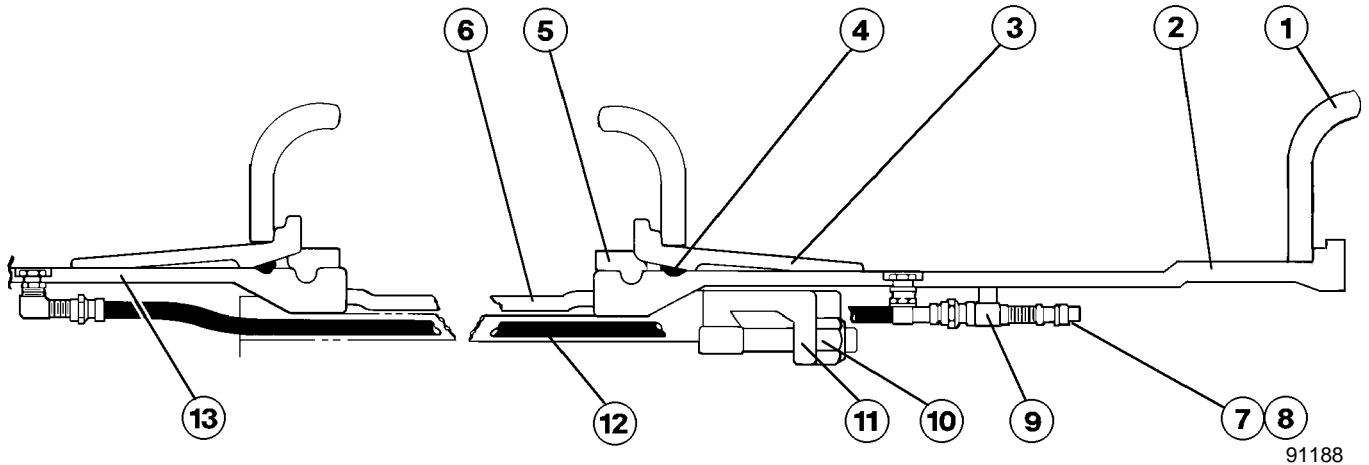

FIGURE 2-2. REAR WHEEL ASSEMBLY
6. If inner wheel removal is necessary, remove spacer (6, Figure 2-2) by pulling straight out and removing from rear hub. (Refer to Figure 2-5.)
2. Using a lifting device, install spacer (6, Figure 2-2) onto wheel motor hub. Tap spacer up against inner dual.